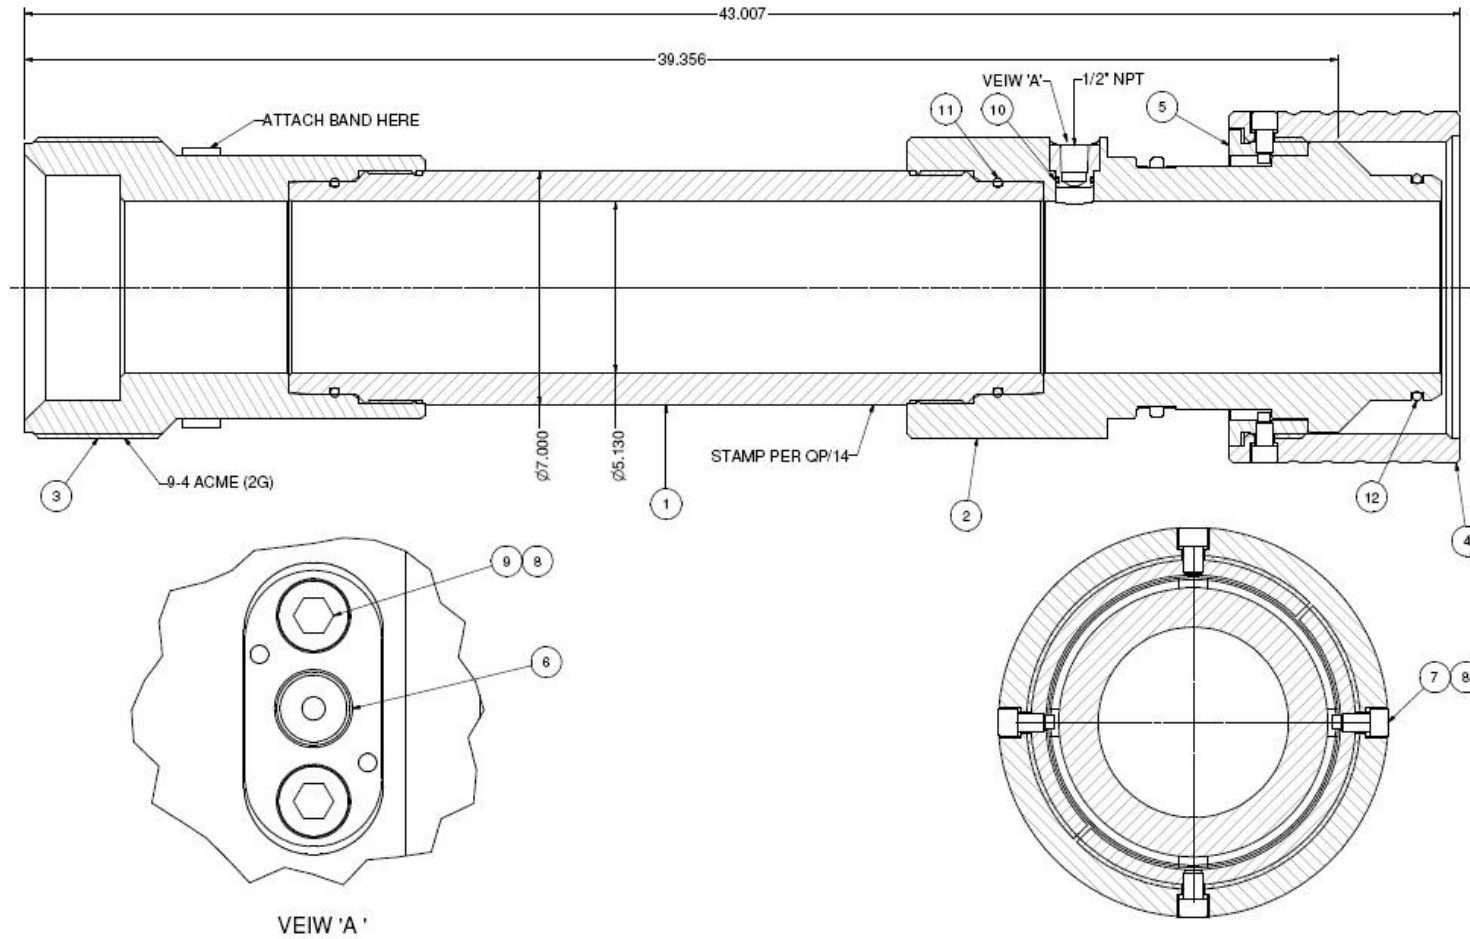

Figure 4 : Assembly Drawing
Note: Thread protectors (items 100 and 101) not shown on Assembly Drawing (Figure 4)